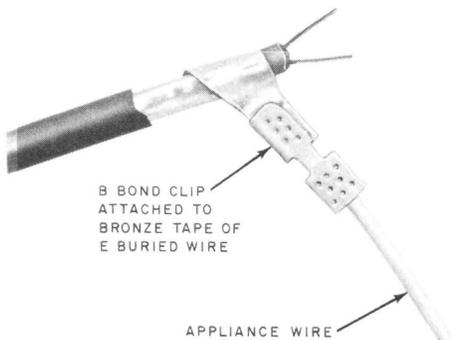

Fig. 39—Bonded Shield of E Buried Wire
11.05 Where the buried wire is over 700 feet in length, the metallic shield of the E buried wire must be bonded to the cable terminal. A B bond clip and B appliance wire may be installed on the metallic shield in a solderless connector as shown in Fig. 39.